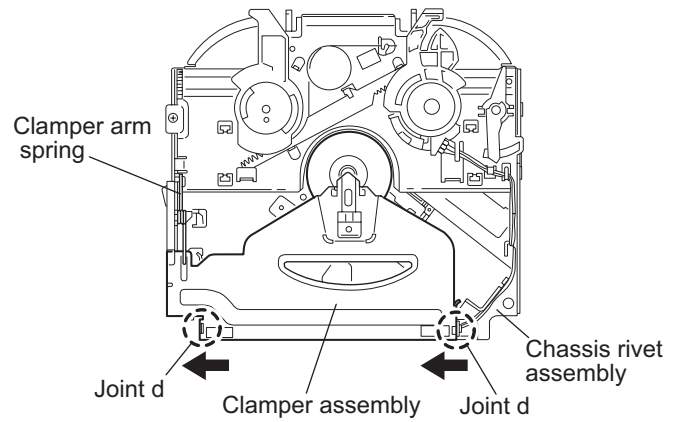

Fig.10
3.2.5 Removing the clamper assembly (See Figs.10 and 11)